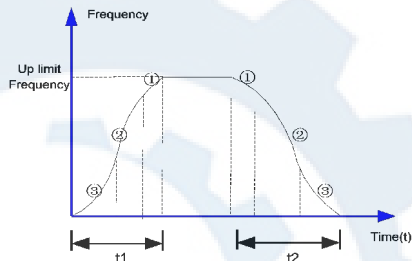

Figure 6-4
1: S-curve acceleration/deceleration. The output frequency increases or decreases along the S curve, showing in figure 6-4.
In Figure 6-4, ③ is the time defined in P1.14, within which the slope of the output frequency change increases gradually. ① is the time defined in P1.15, within which the slope of the output frequency change gradually decreases to 0. Within the time between ① and ③, the slope of the output frequency change remains unchanged, that is, linear acceleration/